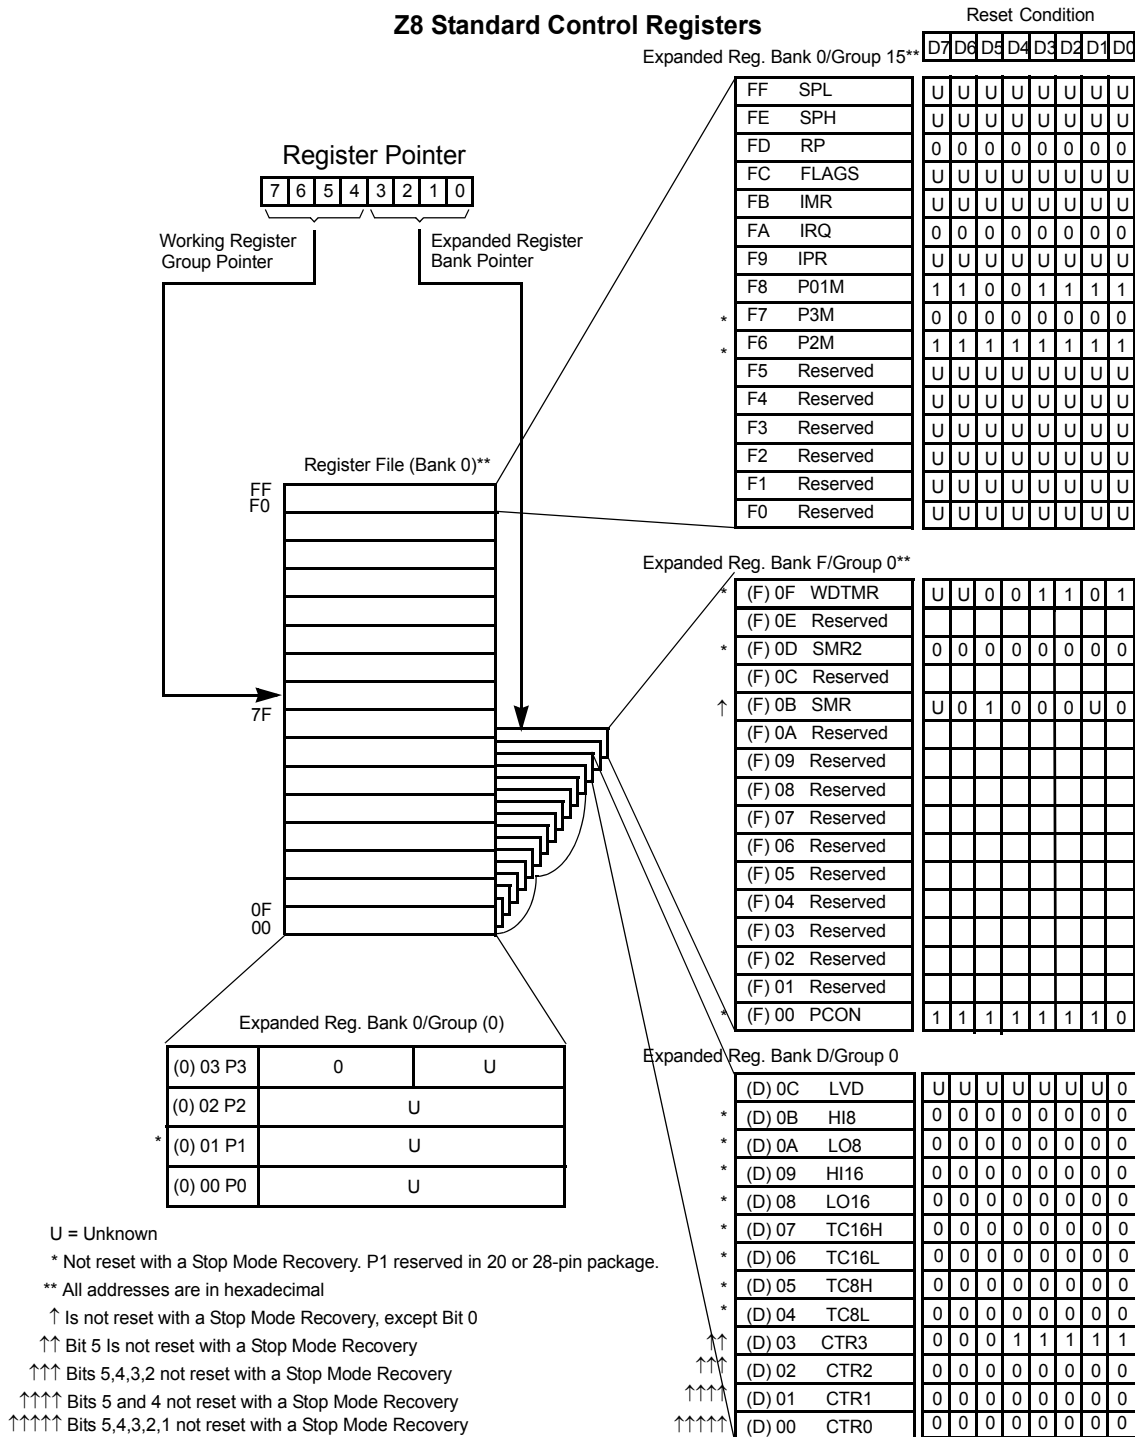

Figure 13. Expanded Register File Architecture
► **Note:** *An expanded register bank is also referred to as an expanded register group (see Figure 13).*
Example: Crimzon ZLP32300 (see Figure 13 on page 22)